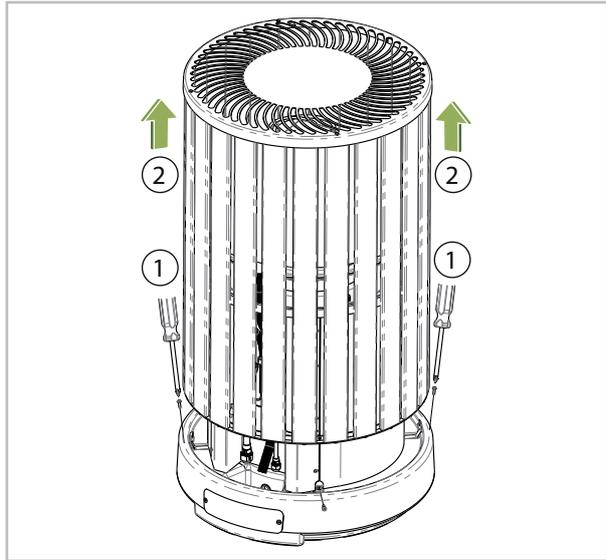

Fig. 36: Disassembly of the aluminium trim panel
- To install the refrigerant piping, you first need to remove the aluminium trim panels on the outdoor unit (see Fig. 36). Unfasten the four M6 screws from the lower area of the trim panel (1) and carefully remove the trim panel by lifting it upwards (2). Ensure that you do not damage the heat exchanger and the fan.